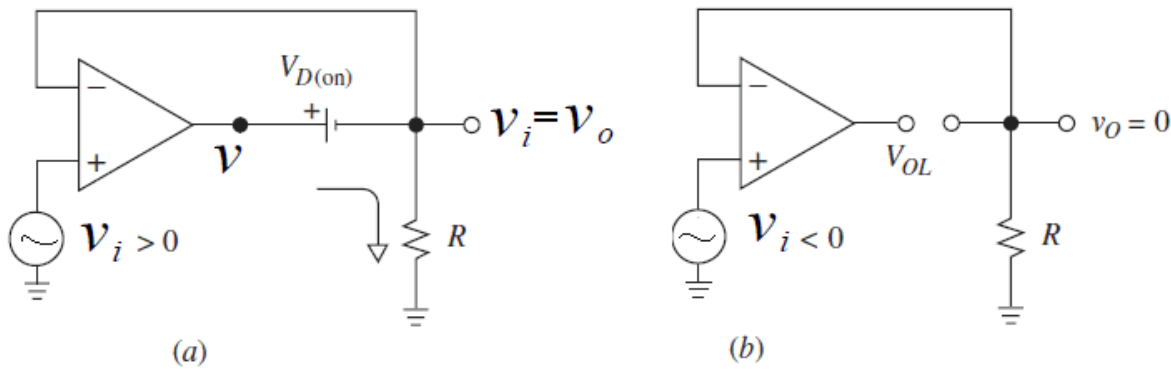

Fig. 27
**1-** when input voltage is positive ( $v_i > 0$ ), the op-amp output ( $v$ ) will also be positive, turning ON the diode and thus creating the negative-feedback path shown in Fig. 27-a. This allows the op-amp to operate as a voltage follower and give  $v_o = v_i$  (prove that). The output of the op-amp ( $v$ ) is a diode drop above  $v_o$ , ( $v = v_o + V_{D(on)} \approx v_o + 0.7 \text{ V}$ ).
**2-** when input voltage is negative ( $v_i < 0$ ): The op-amp output ( $v$ ) is negative, turning the diode OFF and thus causing the current through  $R$  to go to zero. Hence,  $v_o = 0$ . As shown in Fig. 27-b, the op-amp is now operating in the open-loop mode.